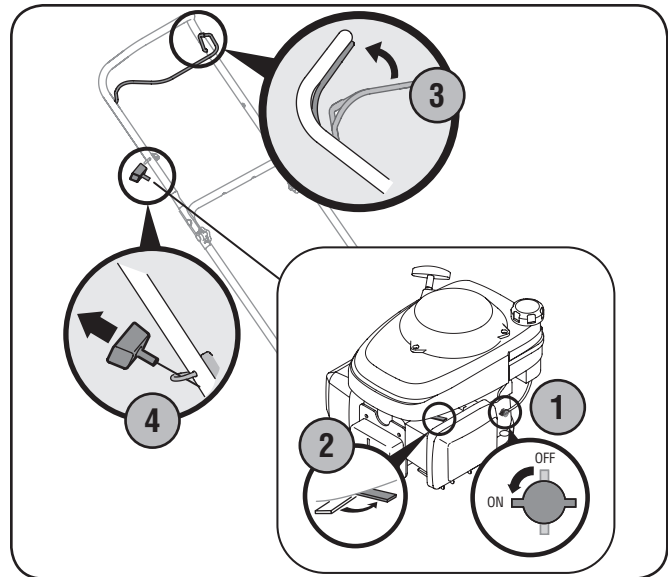

Figure 5-1
1. Place the fuel valve lever (if equipped) found on the left side of the engine into the ON (OPEN) position. See Fig. 5-1.
4. Holding these two handles together firmly, grasp recoil starter handle and pull rope out with a rapid, continuous, full arm stroke. See Fig. 5-1. Keeping a firm grip on the starter handle let the rope rewind slowly. Repeat until engine cranks. Let the rope rewind each time slowly.